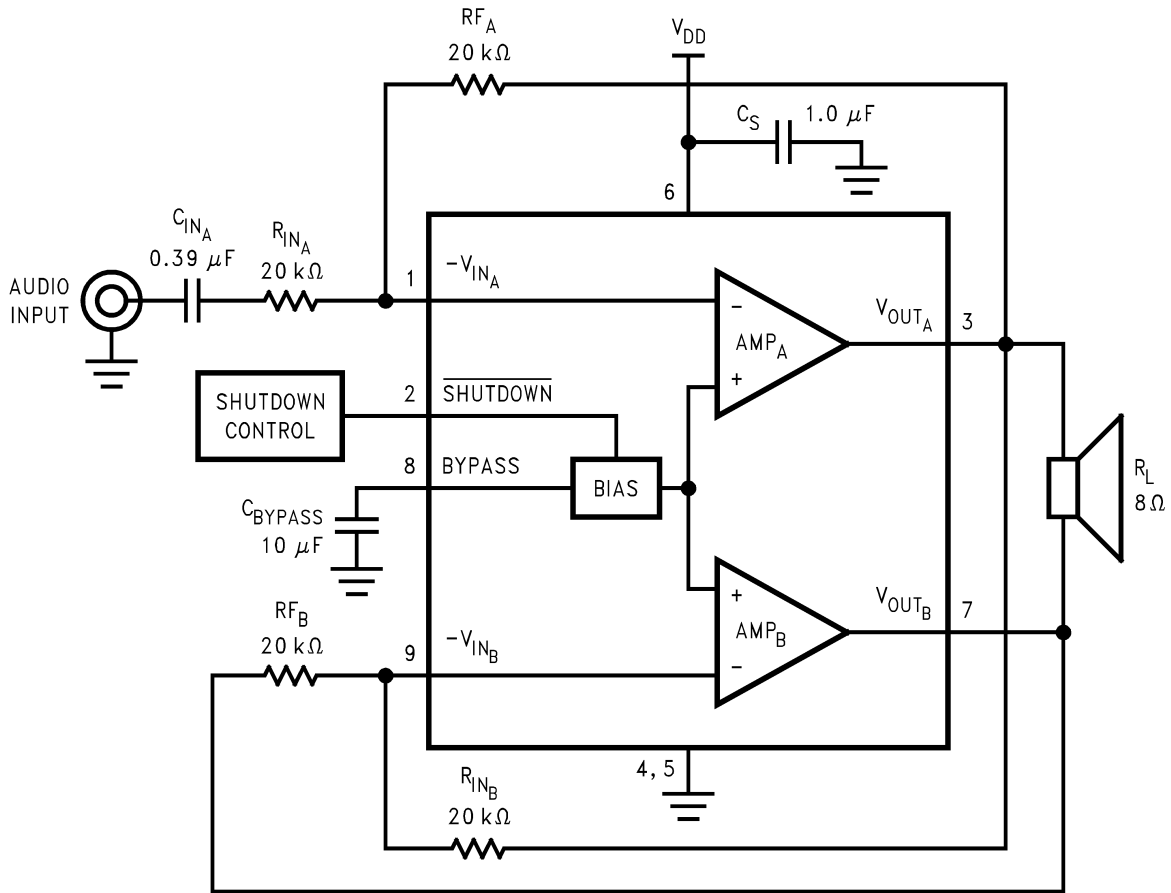

Figure 1. Typical Bridge-Tied-Load (BTL) Audio Amplifier Application Circuit
- (1) All voltages are measured with respect to the GND pin, unless otherwise specified.
- (2) Absolute Maximum Ratings indicate limits beyond which damage to the device may occur. Operating Ratings indicate conditions for which the device is functional, but do not ensure specific performance limits. Electrical Characteristics VDD = 12V state DC and AC electrical specifications under particular test conditions which ensure specific performance limits. This assumes that the device is within the Operating Ratings. Specifications are not specified for parameters where no limit is given, however, the typical value is a good indication of device performance.
- (3) If Military/Aerospace specified devices are required, please contact the Texas Instruments Sales Office/Distributors for availability and specifications.
- (4) The maximum power dissipation must be derated at elevated temperatures and is dictated by TJMAX, θJA, and the ambient temperature, TA. The maximum allowable power dissipation is PDMAX = (TJMAX - TA) / θJA or the given in Absolute Maximum Ratings, whichever is lower. For the LM4950 typical application (shown in Figure 1) with VDD = 12V, RL = 4Ω stereo operation the total power dissipation is 3.65W. θJA = 20°C/W for both DDPAK and TO220 packages mounted to 16in2 heatsink surface area.
- (5) Human body model, 100pF discharged through a 1.5 kΩ resistor.
- (6) Machine Model, 220pF–240pF discharged through all pins.
See Figure 1.